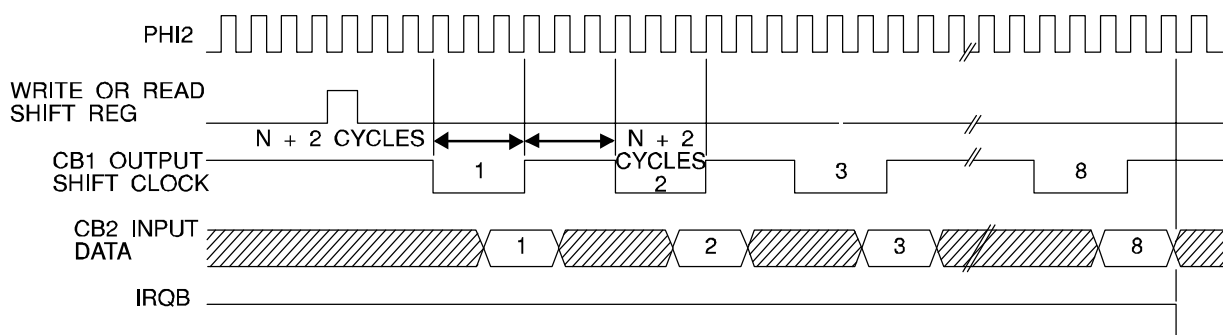

Figure1-6 Shift In - Counter T2 Control
The Shift Register (SR) performs bi-directional serial data transfers on line CB2. These transfers are controlled by an internal modulo-8 counter. Shift pulses can be applied to the CB1 line from an external source, or (with proper mode selection) shift pulses may be generated internally which will appear on the CB1 line for controlling external devices. Each SR operating mode is controlled by control bits within the ACR. See Table 1-10 for control bit information. See also Figures 1-6 through 1-12.
1.12.2 Shift In - Counter T2 Control (001)
In this mode, the shifting rate is controlled by the low order eight bits of counter T2. Shift pulses are generated on the CB1 line to control shifting in external devices. The time between transitions of the CB1 output clock is determined by the PHI2 clock period and the contents of the low-order T2 latch (N). Shifting occurs by writing or reading the SR. Data is shifted into the low-order bit first, and is then shifted into the next higher order bit on the negative-going edge of each clock pulse. Input data should change before the positive-going edge of the CB1 clock pulse. This data is then shifted into the SR during the PHI2 clock cycle following the positive-going edge of the CB1 clock pulse. After eight CB1 clock pulses, IFR2 will set and IRQB will go to a Logic 0. See Figure 1-6.